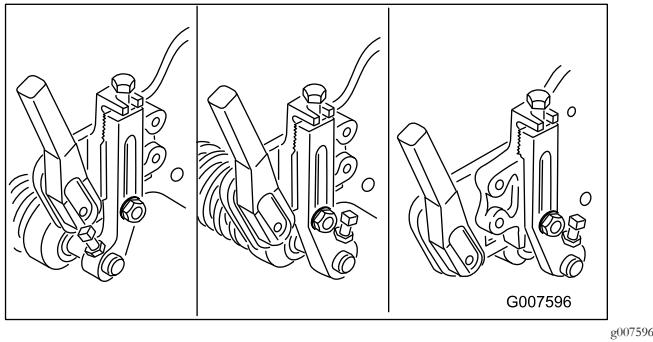

Figure 51
**Note:** The front roller can be put in 3 different positions (Figure 51), depending on the application and needs of the user.